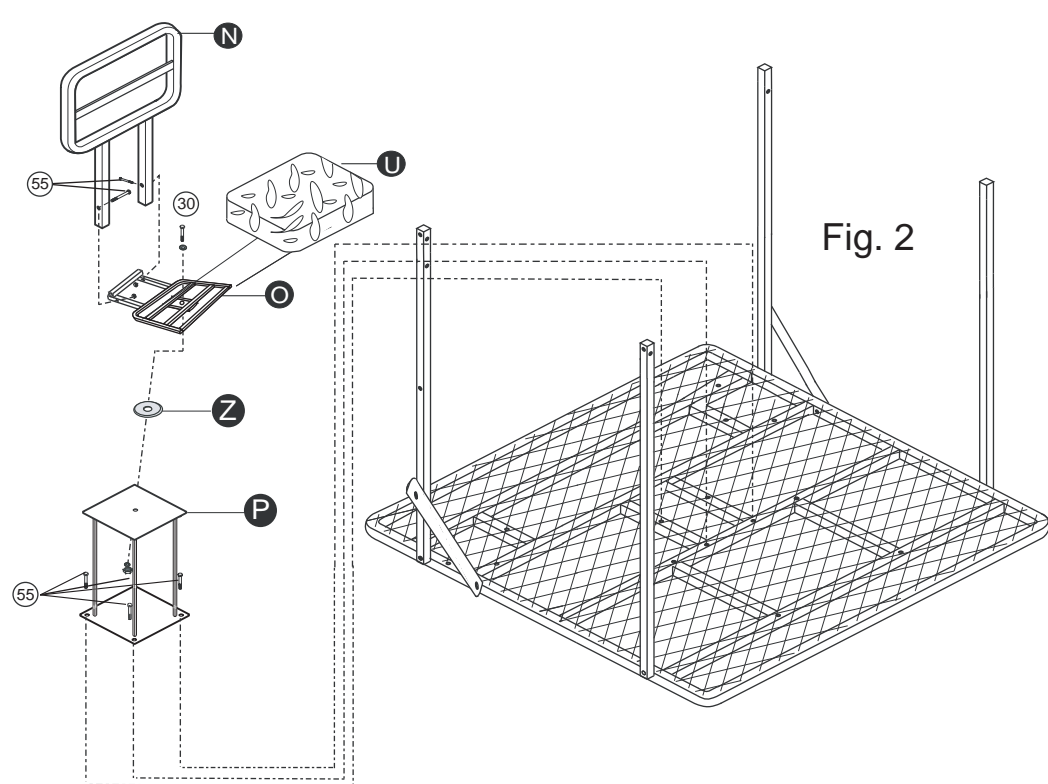

Fig. 2
3. Attach Seat Pedestal **P** to Platform **R** with **4-45mm bolts** for each side. (See Fig. 2)
4. Place Large Washer **Z** over the hole on the Seat Pedestal **P**, then attach Swivel Seat **O** to Seat Pedestal **P** with **1-30mm bolt**. (See Fig.2)
5. Attach Backrest **N** to Swivel Seat **P**. Attach with **2-55mm bolts**. (See Fig. 2)